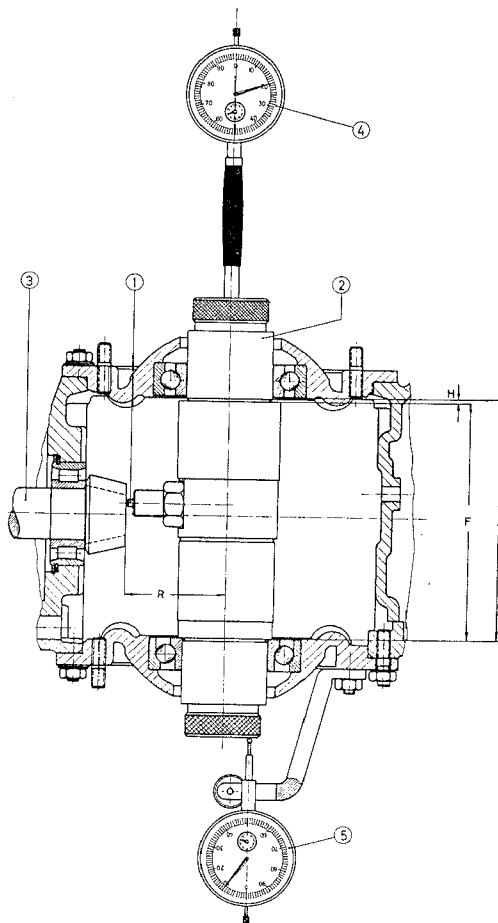

Fig. 98
6. Turn the transmission housing so that the gauge moves axially and rests with its own weight on the inner race of the ball bearing in the right half of the housing. The value shown on the dial gauge must be added to the length of gauge P 33 (marked on gauge body) to give the total depth "J" of the housing (Fig. 98).
Determine distance between differential carrier bearings using tool P 33 (see Fig. 98 and the following example) and record.